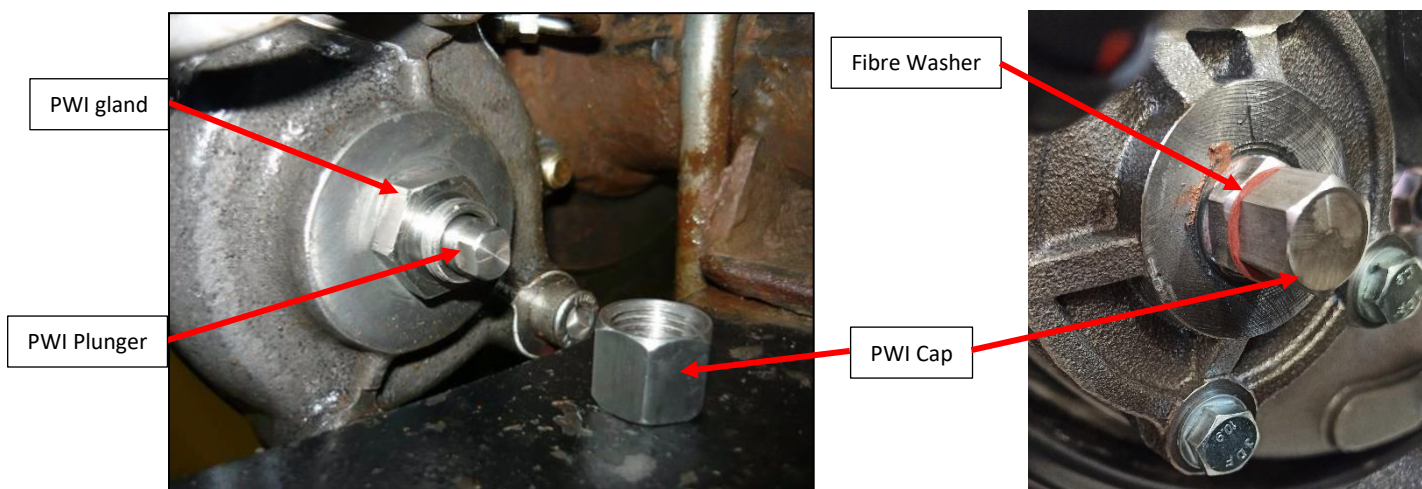

Fig. 24
- d. Fit the stainless-steel protective cap and fibre washer to the gland fitting. See Fig. 24